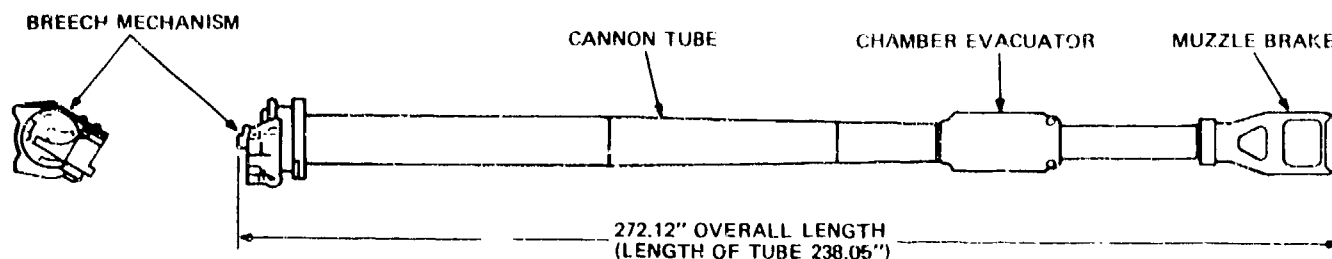

Figure 2-28. Cannon, 155-mm M185 chamber evacuator, muzzle brake.
a. *Chamber evacuators.* Chamber evacuators (fig 2-28) are used in combat vehicles to remove the propellant gases from the bore after the weapon has been fired, thus preventing contamination of the fighting compartment. The chamber evacuator, which fits over the cannon tube, forces the gases to flow outward through the bore. Part of the gases flow through valves, which may be inserts in the evacuator or orifices in the tube itself. The evacuator functions as follows:
b. *Muzzle brake.* A muzzle brake (fig 2-28) is a device that is mounted on the muzzle of a cannon. It has a centrally bored hole, through which the projectile passes, and one or more baffles. The primary purpose of a muzzle brake is to retard the force of recoil. As the projectile leaves the muzzle, the high-velocity gases following the projectile through the tube strike the baffles of the muzzle brake and are deflected toward the rear and sides into the atmosphere. The gases exert a forward force on the baffles; this force partially counteracts the force of recoil, thereby reducing the force of recoil.